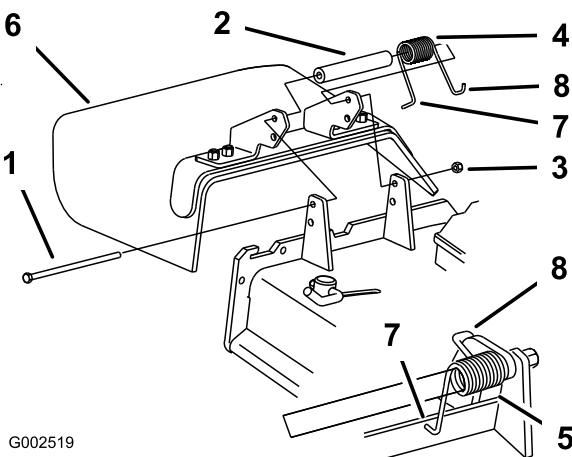

Figure 90
1. Remove the locknut, bolt, spring and spacer holding the deflector to the pivot brackets (Figure 90).
5. Place the **J** hook end of the spring around the grass deflector (Figure 90).